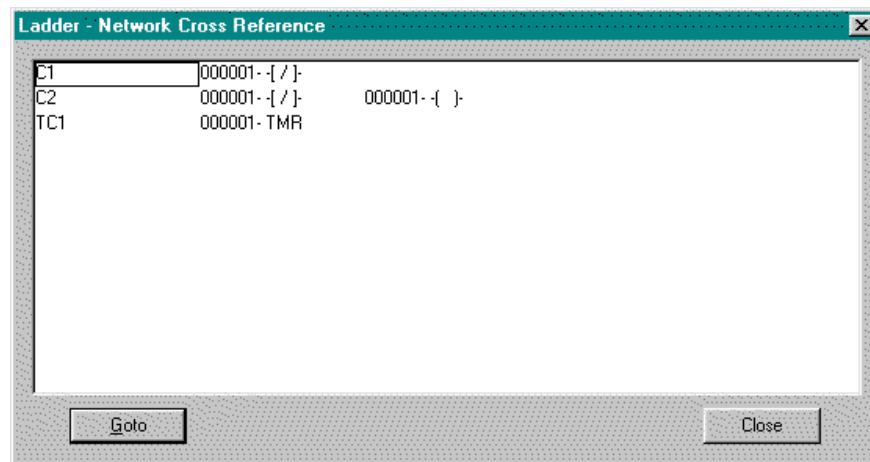

Figure 6.9
1. Position the cursor over the instruction address to cross-reference. Select **N**etwork Cross Reference from the **V**iew menu. The Network Cross Reference window appears (see Figure 6.9). If you have more than one program loaded, the information displayed is for the program in the active window.